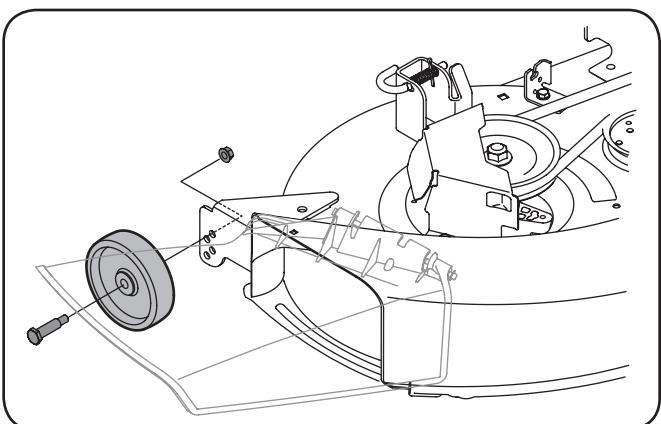

Figure 3-8
- d. Reinsert the shoulder screw (with each gauge wheel) into the index hole that leaves approximately $\frac{1}{2}$ -inch between the bottom of the wheel and the pavement. Secure with the flange lock nut previously removed. See Fig. 3-8.